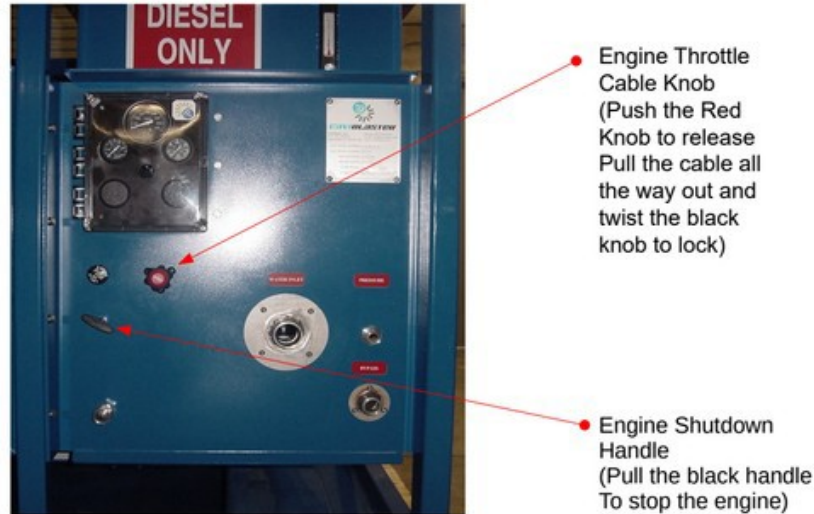

Figure 5.1 – Engine Shut-Down and Throttle Control
7. Throttle the engine completely up by pulling the black throttle cable knob all the way out and twisting the knob to lock it (See **Figure 5.1**).
9. If the diver operating the unit must be replaced or the cleaning operation must be interrupted or terminated, disengage the pressure pump by pushing the throttle lever in to the idle position and pushing the PTO handle to the off position (See **Figure 5.1**). Release the water pressure in the hose(s) by squeezing the lance trigger to the open or “ON” position (See **Figure 5.3**) while under water. Revert to step 3 of the operating instructions when the diver or replacement is ready to continue cleaning.
1. Engage the pressure pump by pulling the PTO lever (See **Figure 5.2**) to the “ON” position to engage the clutch. Push in the red knob on the control panel (See **Figure 5.1**), pull the cable all the way out and twist the black knob to lock.
1. Adjust the engine speed to idle by pushing on the red throttle cable knob (See **Figure 5.1**).
3. Shut off the engine by pulling the black engine shut-down handle out (See **Figure 5.1**).